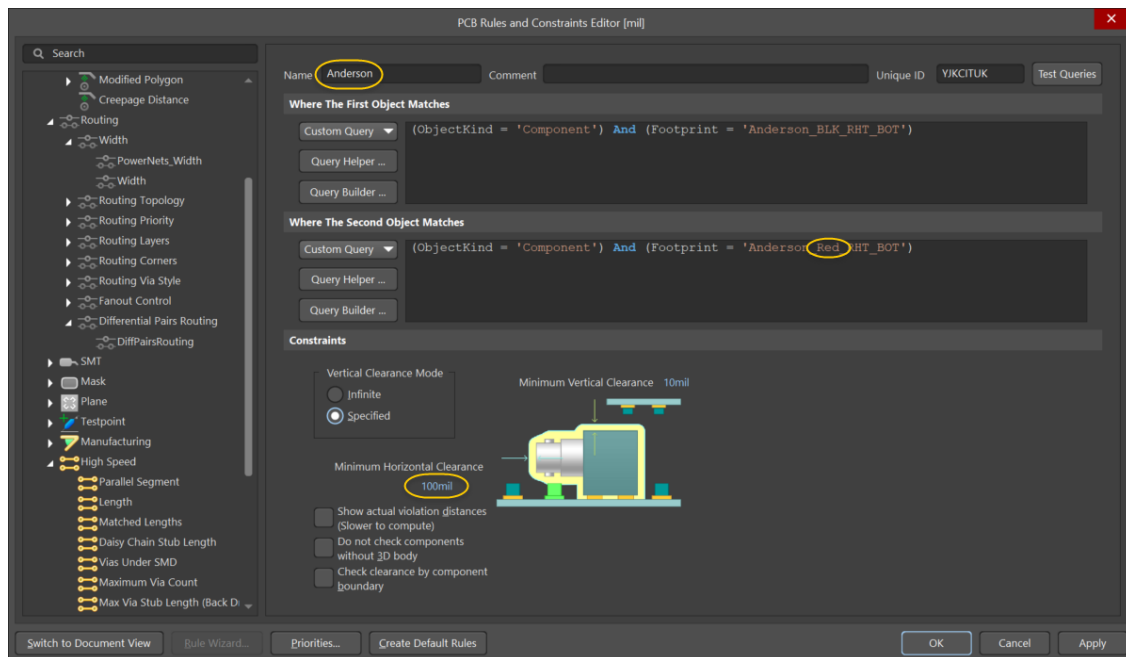

Figure 11. Anderson Component Clearance rule definition
33. We will define a component clearance constraint between components of the Anderson\_BLK\_RHT\_BOT footprint and components of the Anderson\_Red\_RHT\_BOT footprint using Figure 11 below.